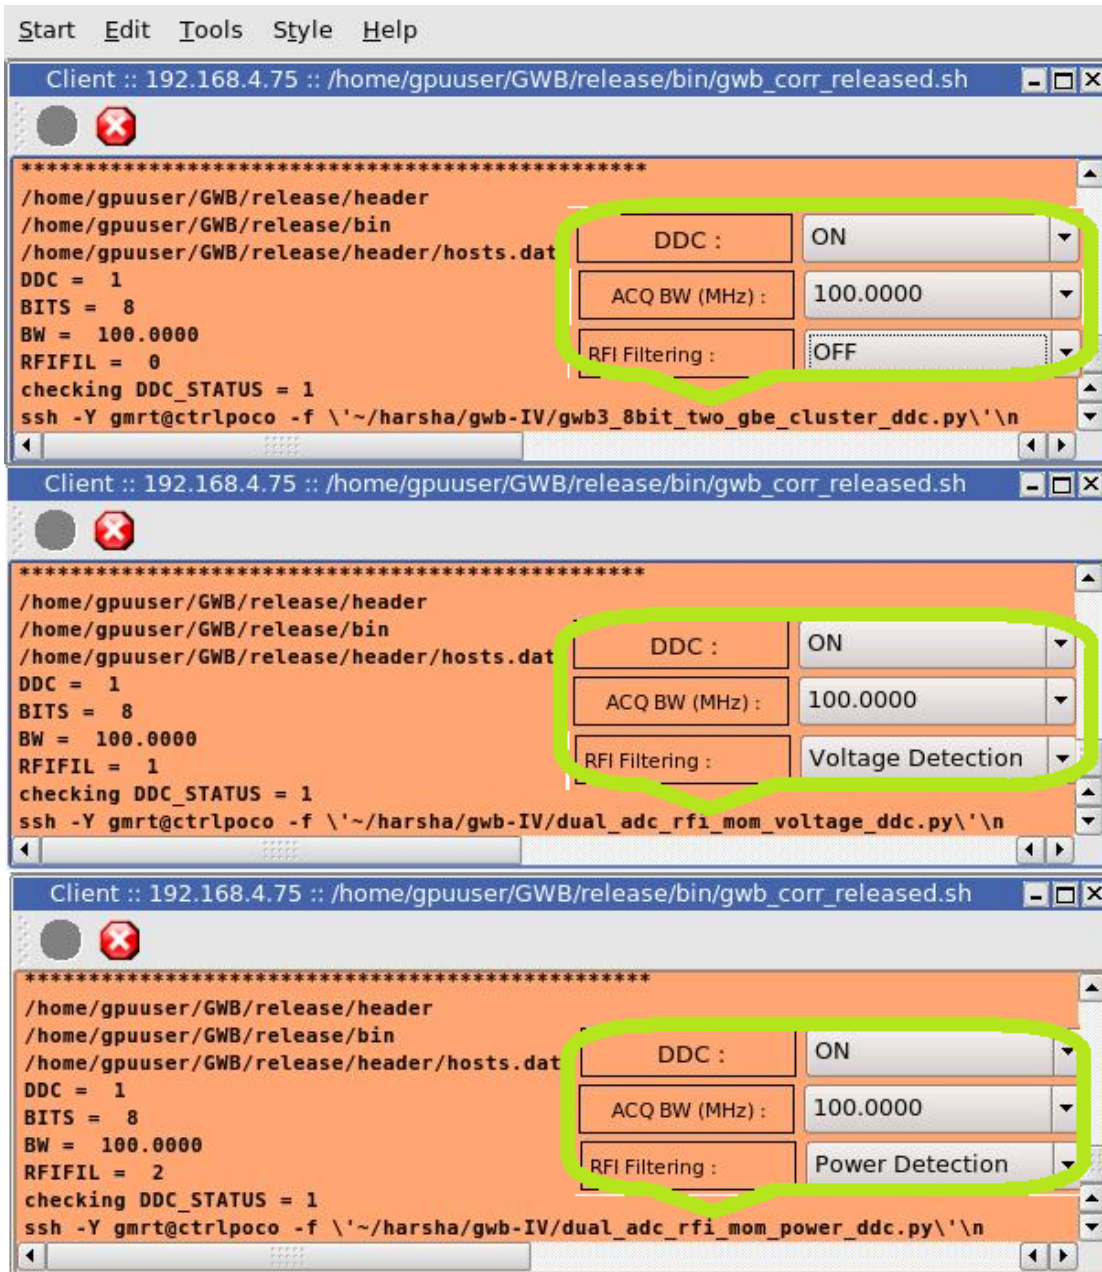

Fig. 5
2. In case of running GWB-IV with RFI Filtering (Voltage Detection ) RFIFIL is 1 and the python script (dual\_adc\_rfi\_mom\_volage\_ddc.py) is running (is highlighted by light green color rectangle in figure 5)
3. In case of running GWB-IV with RFI Filtering (Power Detection), RFIFIL is 2 and the python script (dual\_adc\_rfi\_mom\_power\_ddc.py) is running (is highlighted by light green color rectangle in figure 5)